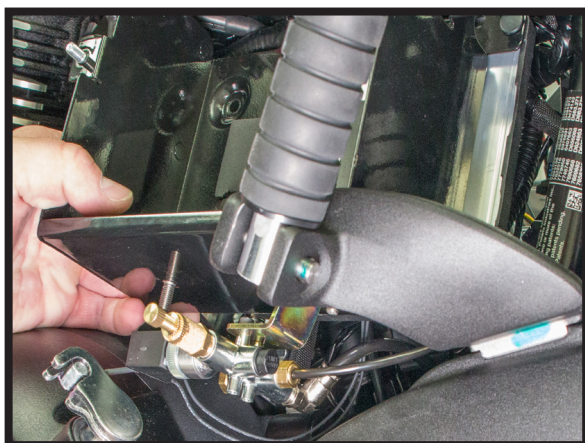

FIGURE 38
16. TRIM THE 1/4" HOSE TO LENGTH THEN PLUG INTO THE MANIFOLD AIR FITTING. TRIM THE 4MM HOSE TO LENGTH AND FOLLOWING THE SAME PROCEDURE AS IN STEP 14, INSERT INTO THE AIR MANIFOLD. MOUNT THE BATTERY BOX BACK TO THE FRAME. (FIGURES 38, 39, 40, 41)